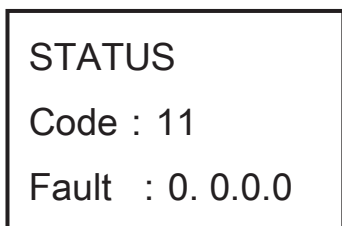

Fig.14 : main menu
- 6) Select and confirm the status info can view the details, including status information, alarm information, code, power rating and version. See Fig 14 to 15